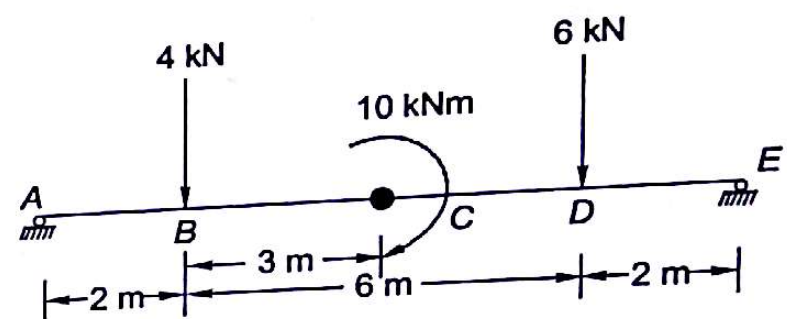

Fig. 2.28
2.5 A beam 10 m long carries loads and a moment as shown in Fig. 2.28. What is equivalent load and point of its application from A?